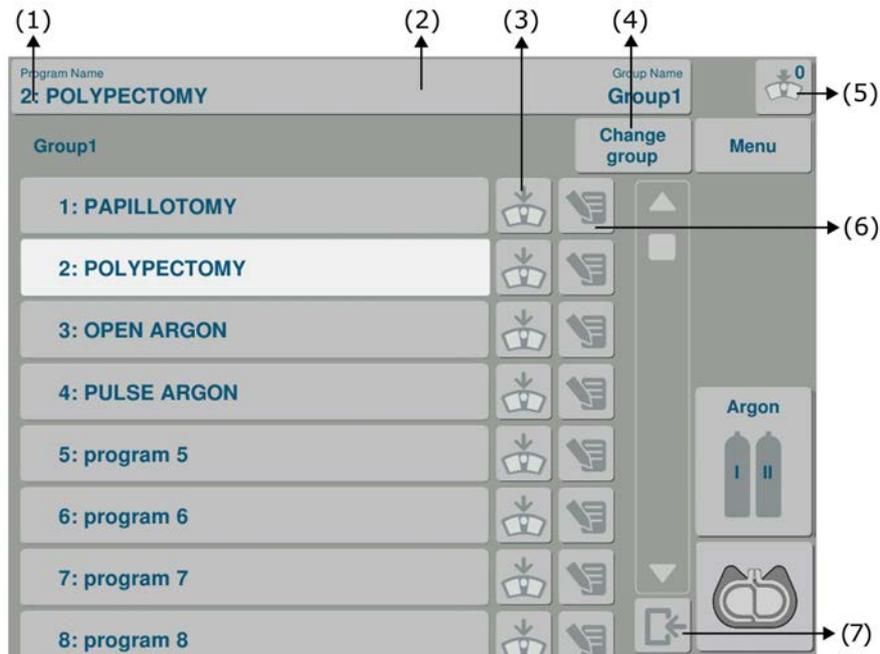

Figure 31. Program management window.
The program management windows contains (**Fig. 31**):
The MultiSwitch button at the program name (**Fig. 31, item 3**) is used to add/remove the MultiSwitch function to/from the list of programs for the currently selected program.
It is possible to save a program in a different group by using the "Group change" button (**Fig. 31, item 4**). A group can be changed similarly to program change.
The number of programs in the list is indicated on the button (**Fig. 31 item 5**). The number of the currently selected program is next to the program name (**Fig. 31, item 1**).